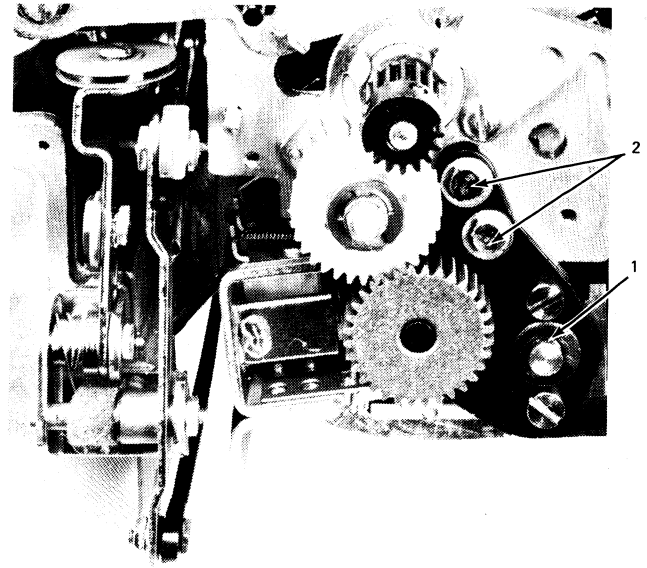

Figure 4-43. Print Feedback Removal (Left Side of Printer, Gear Guard Removed)
4. Remove the print feedback shaft retaining clip (No. 1, Figure 4-43).
5. Remove the two idler assembly mounting screws (No. 2, Figure 4-43).